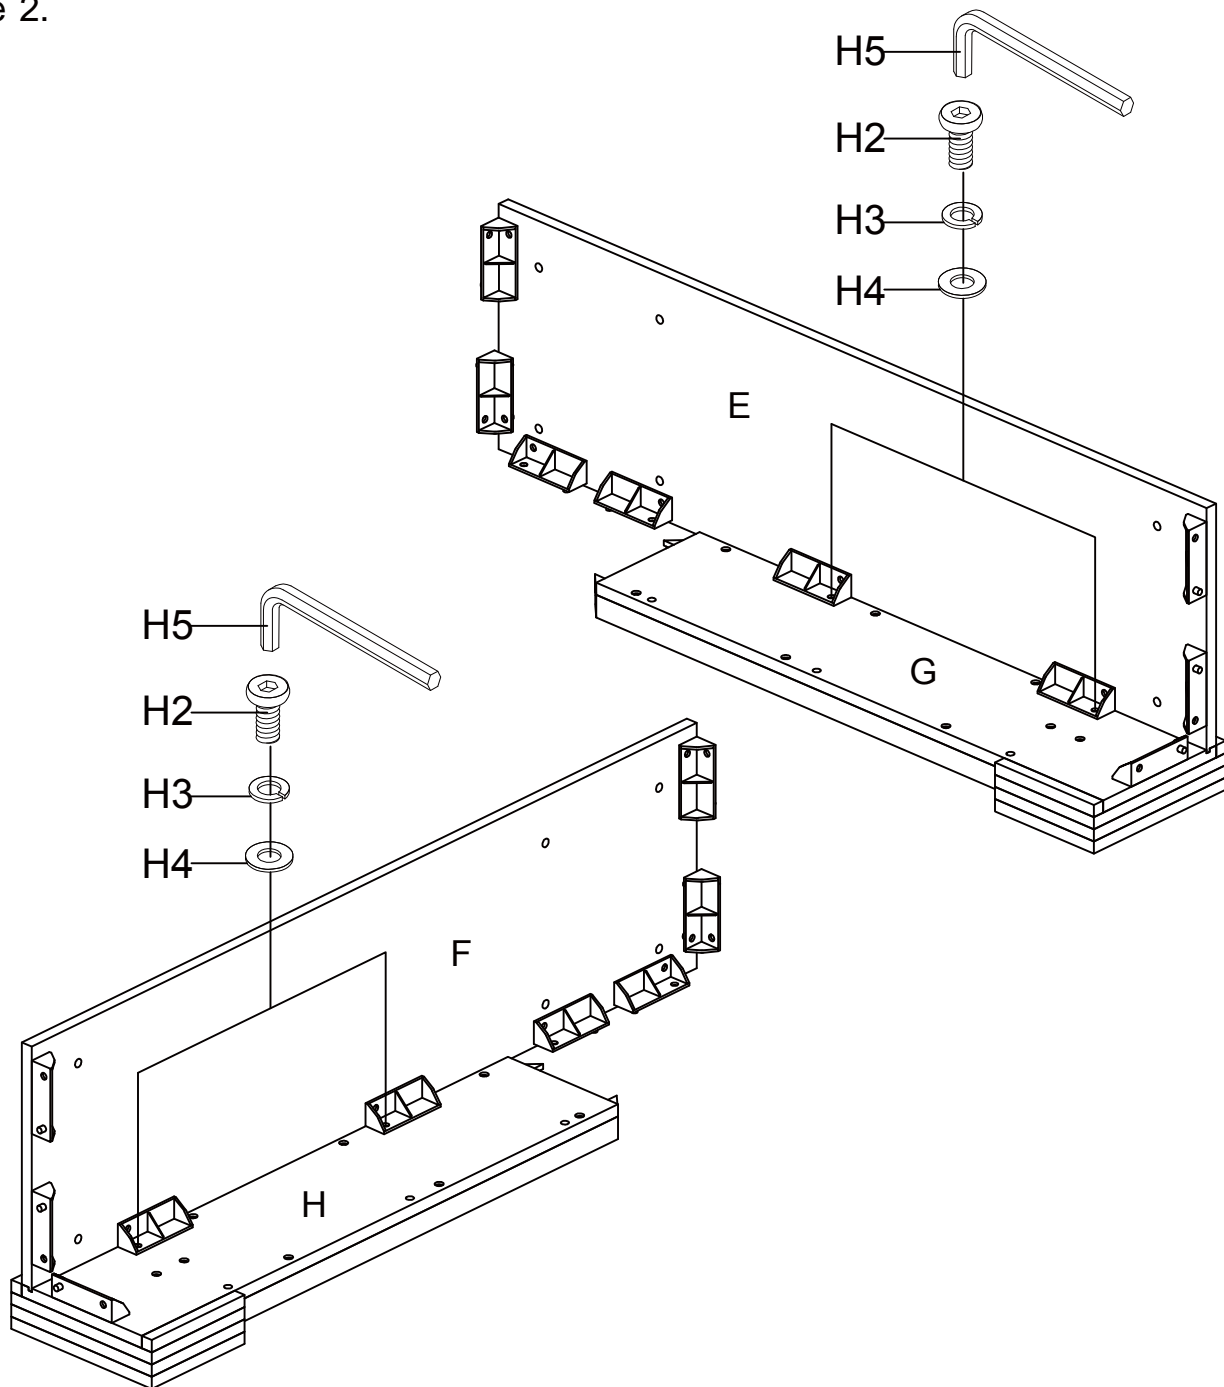

Figure 2
With assistance from another adult, place Left post (G) on a soft smooth surface, insert the tenons of Left side panel (E) into the corresponding holes of Left post (G) and make sure the bottom is flush. Secure the Left side panel (E) to Left post (G) with Short bolt (H2), Spring washer (H3), Flat washer (H4) using Allen wrench (H5) as shown in figure 2. DO NOT fully tighten the bolts in this step for later adjustment.
Repeat this procedure to attach Right side panel (F) to Right post (H) as shown in figure 2.